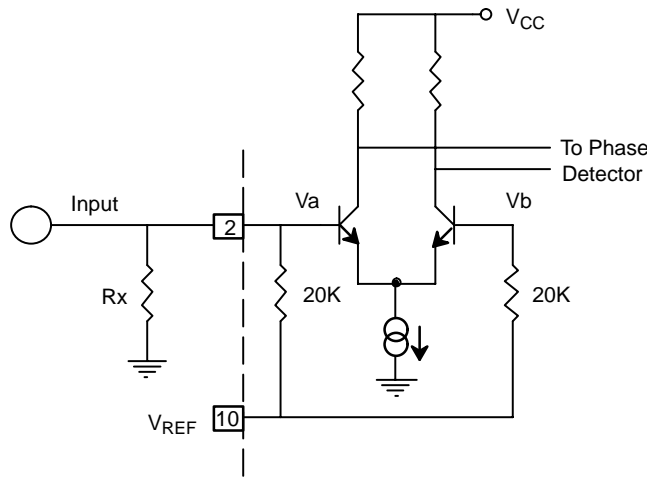

Figure 4. Desensitizing Input Stage
- f) The input to the XR-2211 may sometimes be too sensitive to noise conditions on the input line. *Figure 4* illustrates a method of de-sensitizing the XR-2211 from such noisy line conditions by the use of a resistor, Rx, connected from pin 2 to ground. The value of Rx is chosen by the equation and the desired minimum signal threshold level.